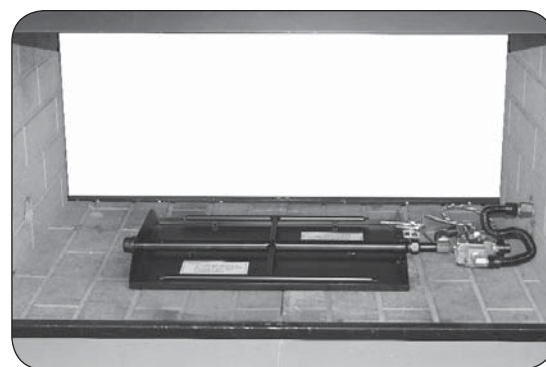

Fig. 17-2 Center burner in fireplace
4. Place the burner system in the fireplace. Center the burner from left to right in the fireplace. See Fig. 17-2.